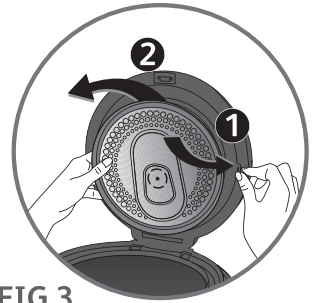

FIG.3
- Remove the non-stick bowl, the inner removable lid and the micro pressure valve. To remove the inner lid, press the release clip on the right side to release the lid – **Fig.3**.